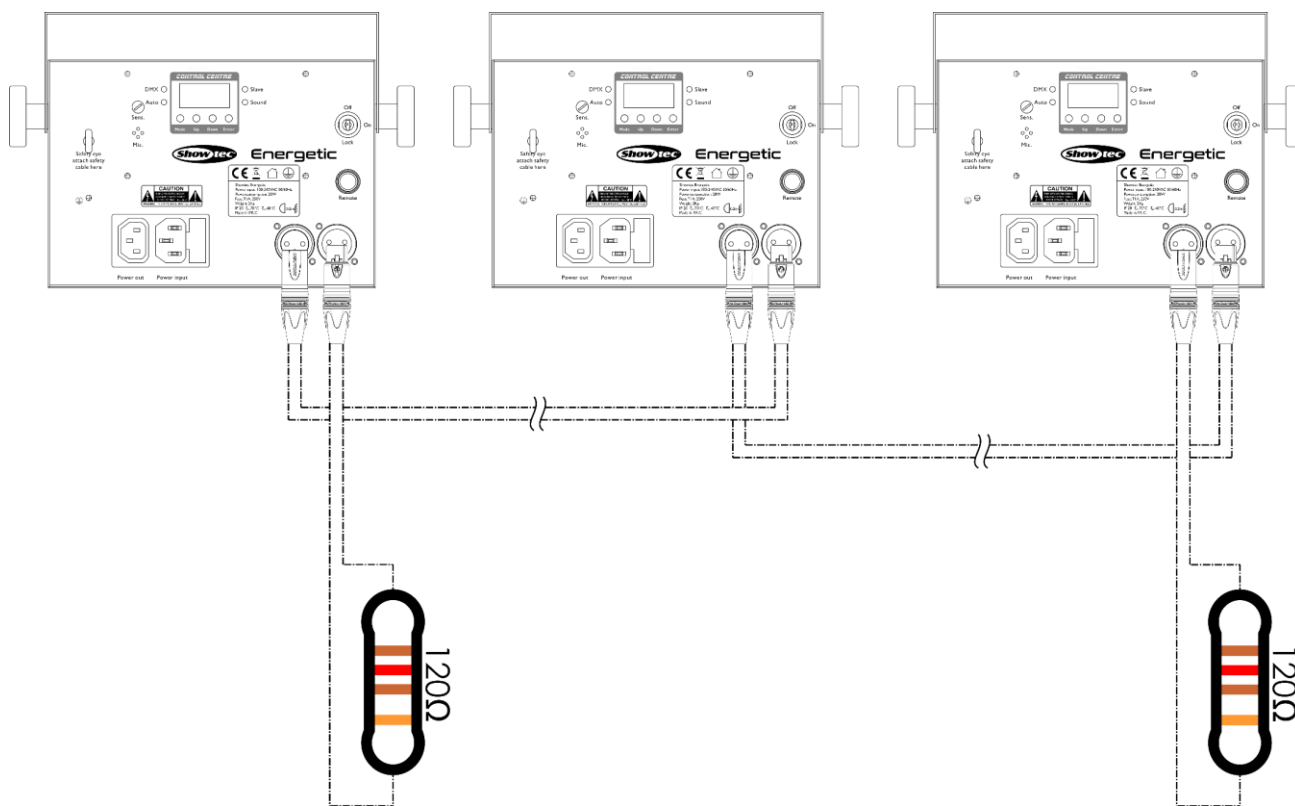

Fig. 06
- 04) Link the units as shown in Fig. 06, connect a DMX signal cable from the first unit's DMX "out" socket to the second unit's "in" socket. Repeat this process to link the second and third units. You can use the same functions on the master device as described on pages 18 and 19 (Built-in programs, Static Color, Manual). This means you can set your desired operation mode on the master device and all slave devices will react the same as the master device.